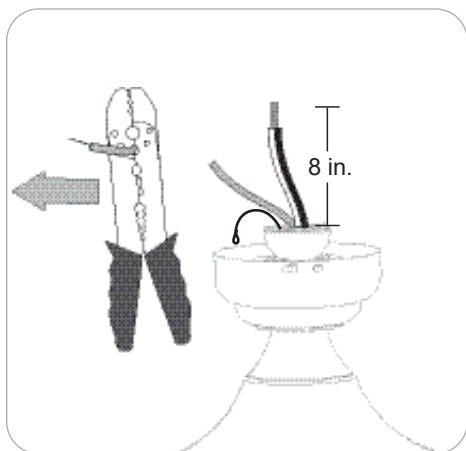

Figure 3.4
4. Depending on the length of downrod you use, you may want to trim the fan wires to simplify wiring. After pulling the wires all the way through the downrod, measure 8 inches of wire. Cut off the excess wire using wire cutters (not included). **Warning:** Do NOT cut braided cable. Then strip 1/2 inch of insulation from the end of each wire strand (Figure 3.4).